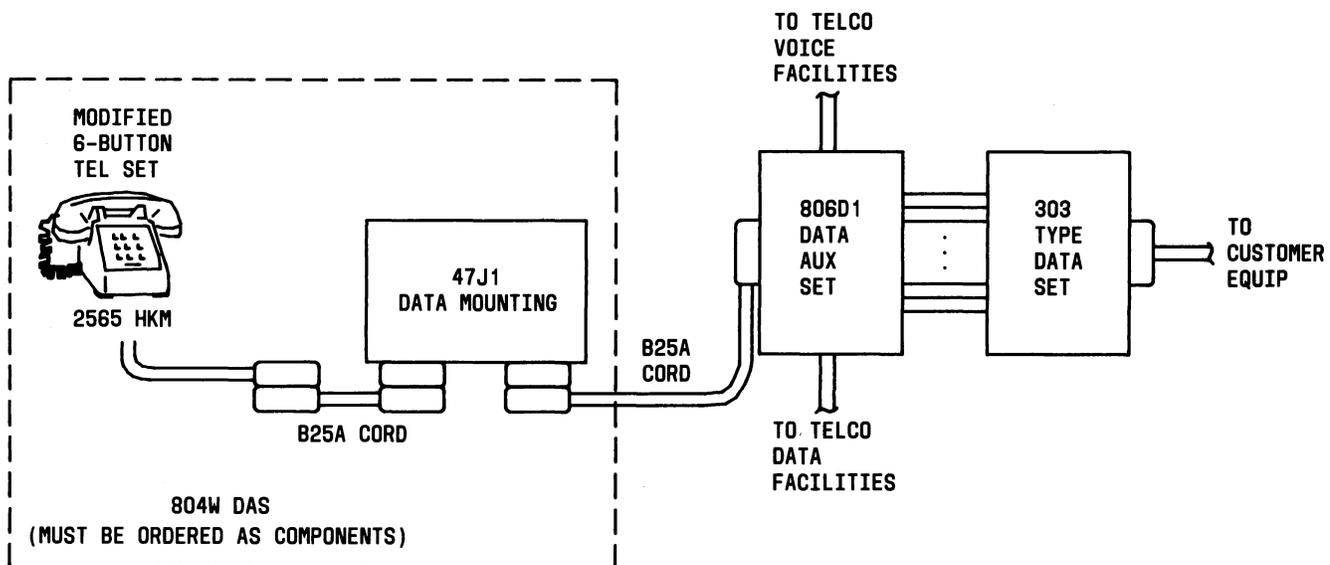

Fig. 2—Typical Equipment Arrangement
2.006 The telephone may be placed on the 47J1 data mounting and both units (telephone and data mounting—comprising the 804W) placed on top of the 303 data station cabinet in the same way as the 804A-type is installed. In this case the distance limitations between the 804W DAS and the 804A-type DAS are as stated in the appropriate 303-type sections. Alternatively the 47J1 data mounting may be mounted in the 303 data station cabinet in a convenient location using the 87AA bracket. In this case the telephone may be separated from the 47J1 by any convenient distance consistent with telephone installation practices. See Fig. 2 for a typical equipment arrangement.